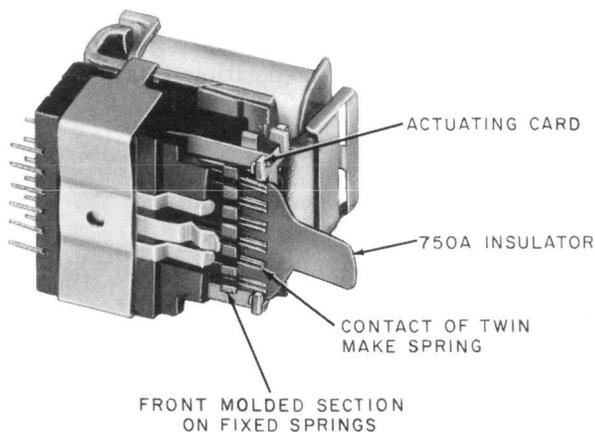

Fig. 5—Positioning 750A Insulator Under Contacts of Twin Make Springs
- (1) To facilitate removing or mounting the actuating card, use the KS-8511 tweezers and KS-19916 magnifier.
- (2) Before removing the actuating card it is necessary to provide protection against damage for the twin make contacts during card replacement and, in the case of frame mounted relays, to provide electrical insulation between the fixed and twin make contacts. To do this, use the 750A insulator as follows: Position the edge of the insulator against the contacts of the twin make springs and carefully lift the springs from the actuating card. Slide the insulator between the card and spring contacts until the insulator is positioned against the front molded section on the fixed springs as shown in Fig. 5.